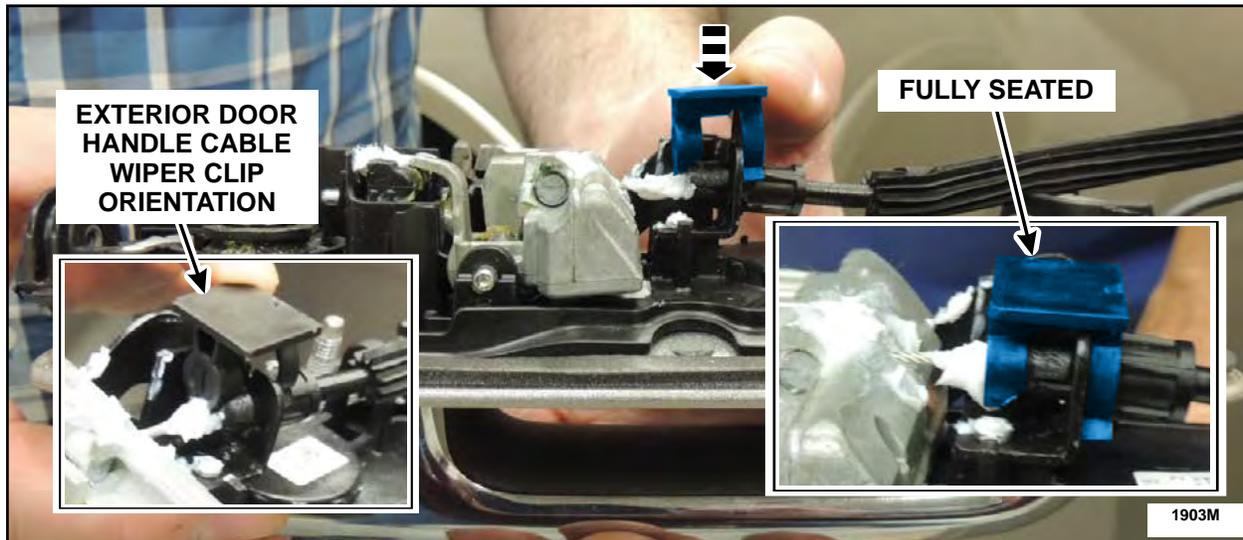

FIGURE 100
26. Install *a new* handle cable wiper clip on the exterior door handle cable end. See Figure 100.